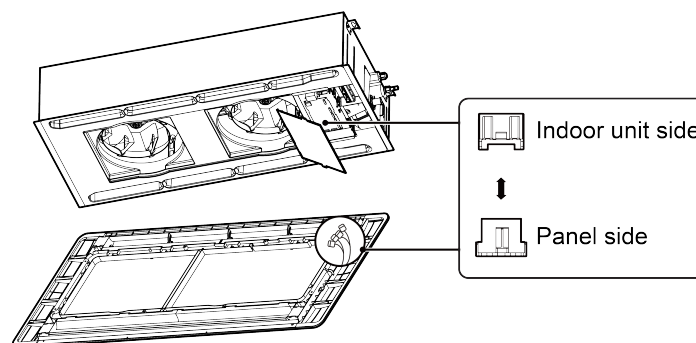

Fig.4.5.3
- (3) Connect the decoration panel terminals (Female) to body terminals (male) as shown in Fig.4.5.3.